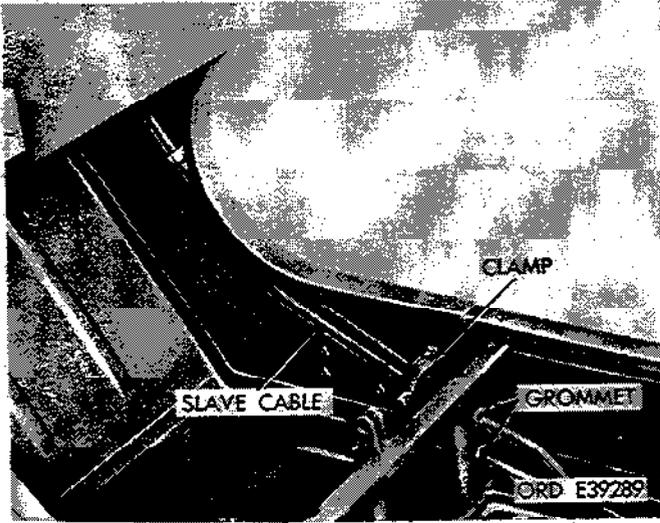

Figure 3-14. Slave cable installation body right side panel.
a. Removal. Refer to figures 3-14, 3-15 and 3-16.
(1) Remove right front seat and battery compartment cover. Remove battery winterization cover. Disconnect and remove outer battery.
(2) Remove nut from left battery positive terminal and disconnect slave cable.
(3) Remove retaining screw, washer, nut and cable clamps from body right side panel.
(4) Remove cable retaining clips from right cowl channel.
(5) Remove four receptacle-to-cowl retaining screws, lockwashers, flat washers, and nuts. Ground cable is attached by lower left screw.
(6) Remove receptacle assembly from cowl.